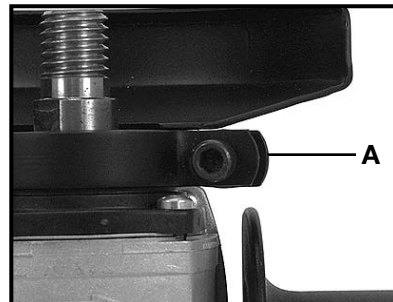
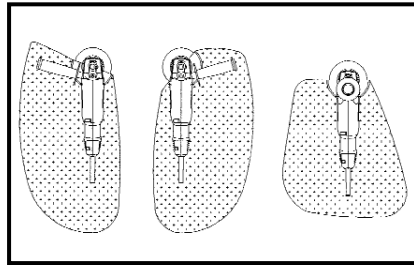

Fig. 3
Fig. 4
3. Seat guard onto mounting flange. Rotate the guard to a position that will place the guard between the operator and the grinding wheel (or other accessory requiring a guard). Tighten clamp screw (A) Fig. 3, to secure the guard in proper position (see Fig. 4).
⚠ WARNING: Always make sure the wheel guard is positioned between operator and the wheel, so that flying chips or pieces of a wheel that might break will be deflected away from the operator (see Fig. 4).